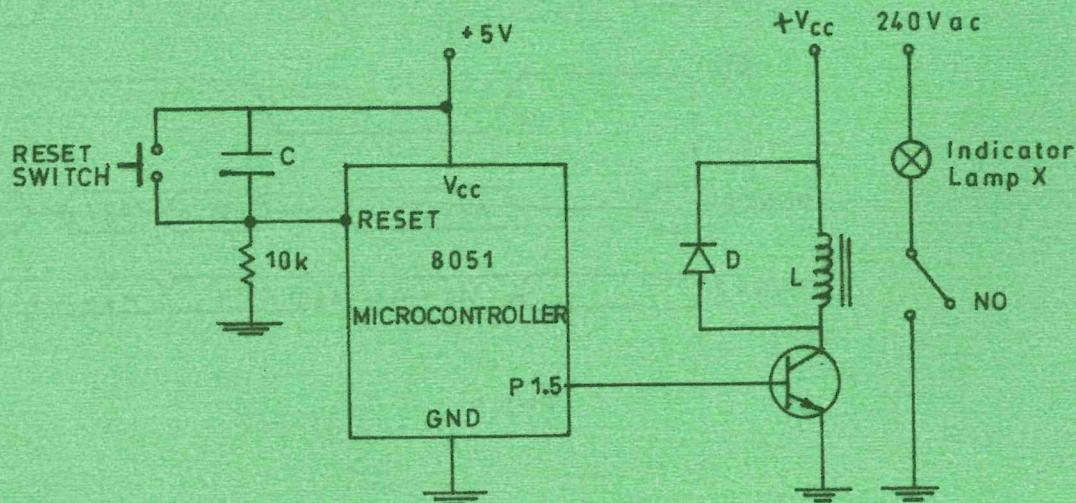

Fig. 6
- (b) Figure 6 shows a schematic block diagram of a microcontroller-based system.